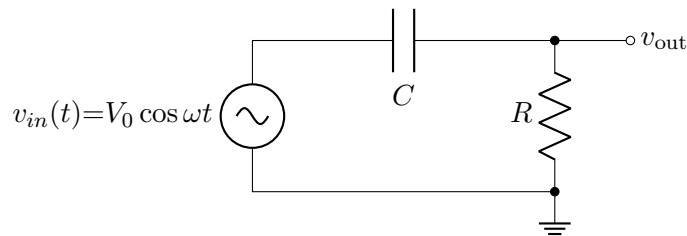

Figure 2: The high-pass R - C filter circuit
1. Construct the high-pass filter shown in Fig. 2.